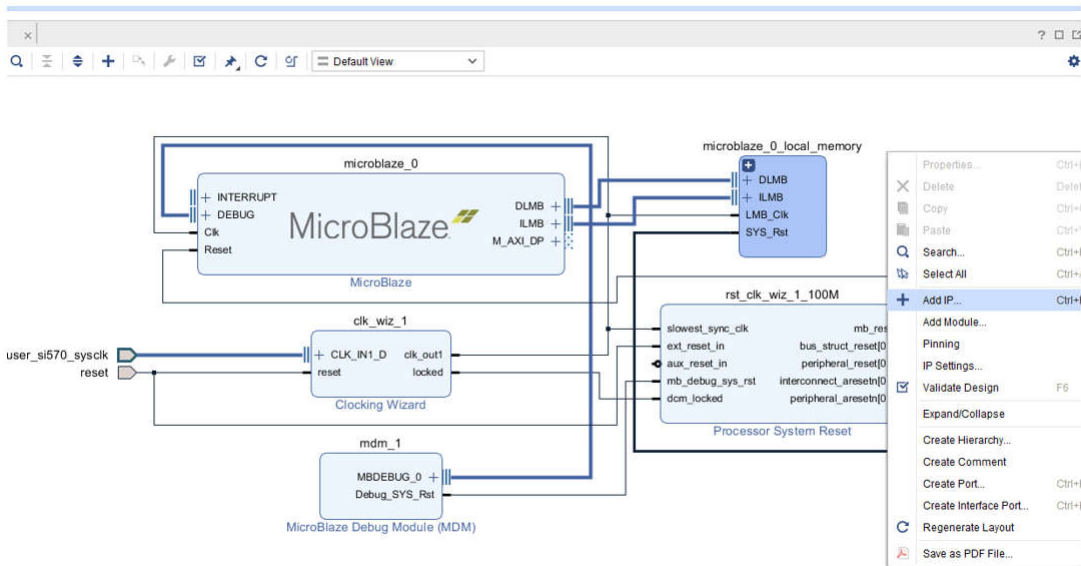
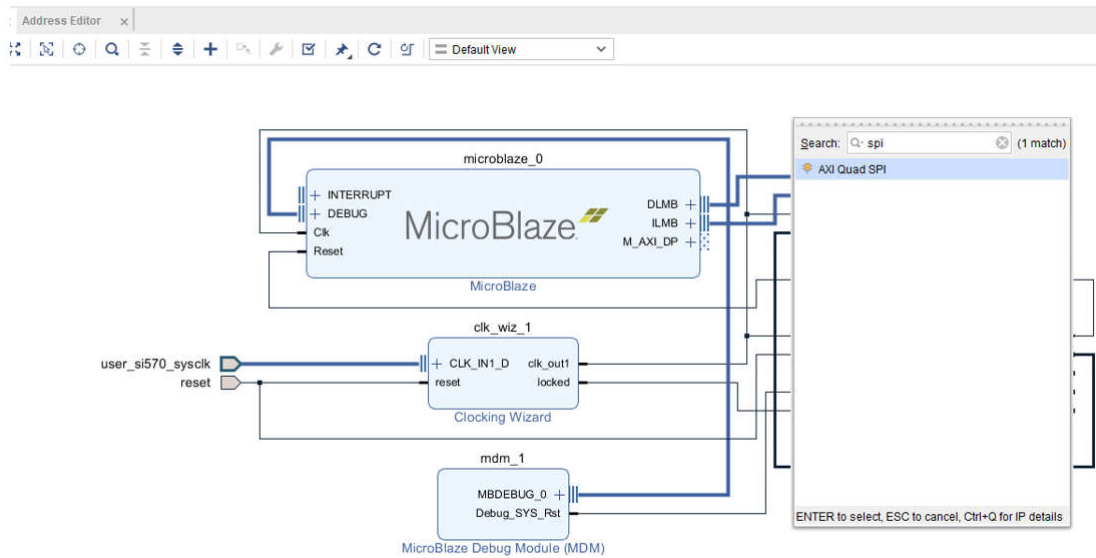

Figure 5-8. Adding IP to Block Design
Figure 5-9. Adding 'AXI QUAD SPI' IP to Block Design
12. Right click block design and add 'AXI Quad SPI' as shown in Figure 5-8 and Figure 5-9.